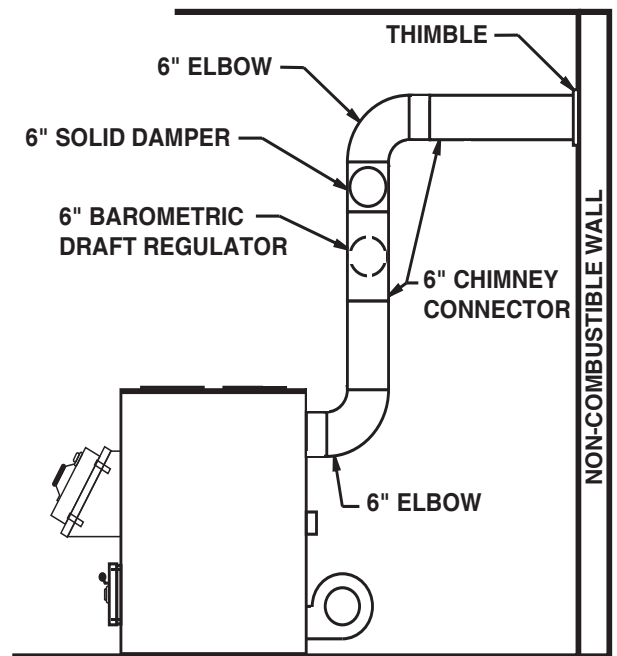

Figure 6
7. The chimney connector may include a section for a barometric draft regulator between the furnace and the chimney (Fig. 6, 7, & 10). The barometric draft regulator must be installed in the same room (same pressure zone) as the furnace.
9. A solid damper must be used in the chimney connecting pipes between the flue collar and the chimney. When used in conjunction with a barometric draft regulator, the solid damper must be placed between the barometric and the chimney. (See Fig. 6, 7, & 10)